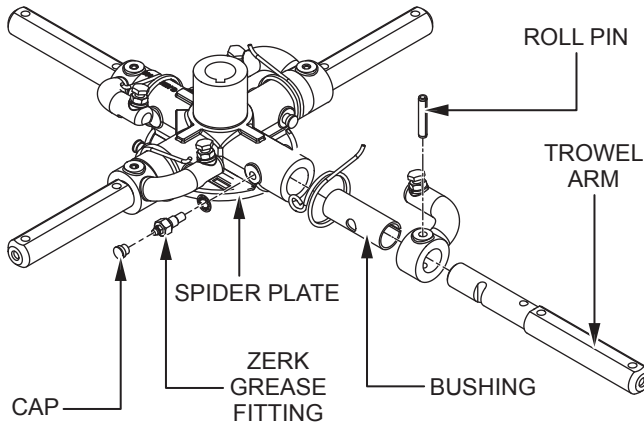

Figure 63. Trowel Arm Removal
1. Each trowel arm is held in place at the spider plate by a Zerk grease fitting (hex head bolt) and a roll pin (Figure 63). Remove the Zerk grease fitting and the roll pin from the spider plate.
2. Remove the trowel arm from the spider plate (Figure 63).
3. Carefully remove the trowel arm bushing (Figure 63) and set it aside.